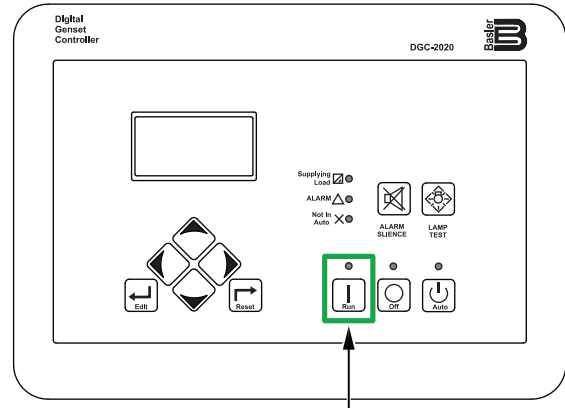

Figure 75. Digital Controller (Run Button)
7. Press the **Run button** (Figure 75) to start the engine.